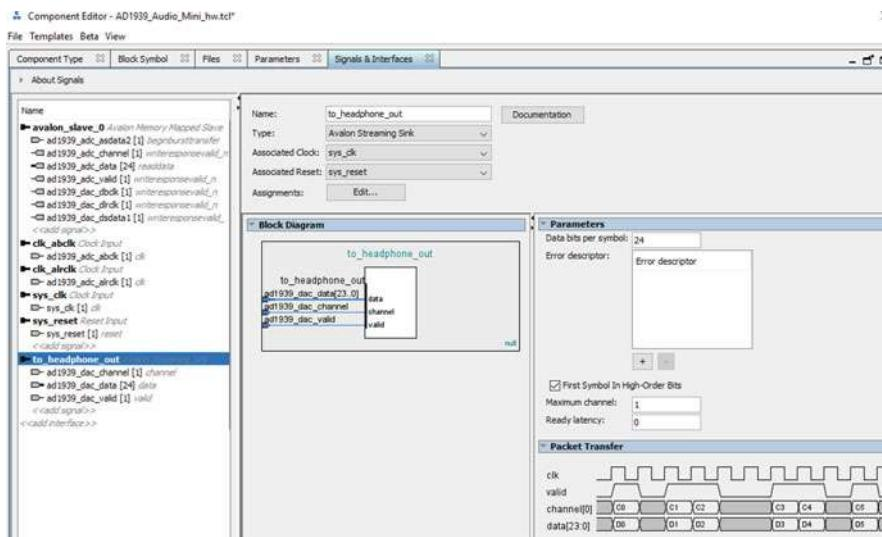

Fig. 1.12: Creating the Platform Designer Avalon Streaming Sink interface that goes to the Headphone amplifier and Headphone out on the Audio Mini board
*Data bits per symbol* to **24** since the data signal is 24 bits and set *Maximum channel* to **1**. If you keep the max channel setting at zero, the right channel (channel 1) will not be implemented in the system. The result should be like the figure in Fig. 1.12, and the summary of the interface is: